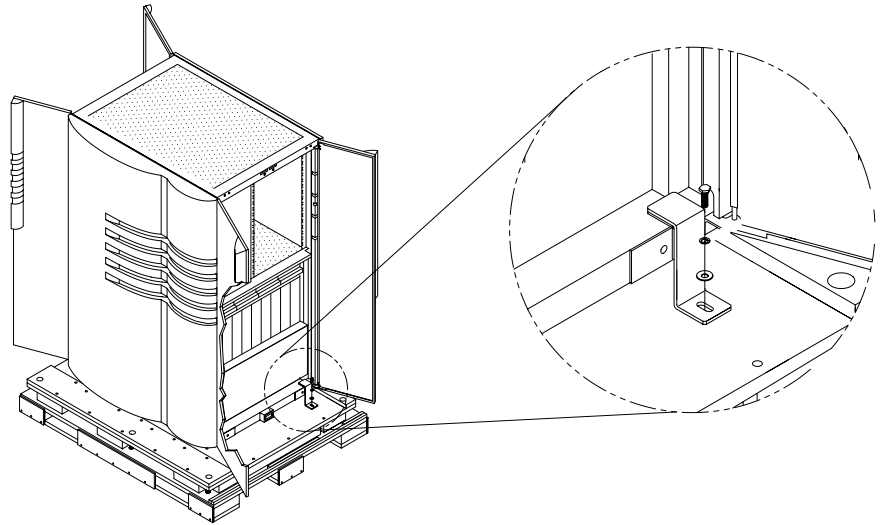

FIGURE 5-13 Installing the Mounting Brackets
8. Install the cabinet mounting brackets (FIGURE 5-13).